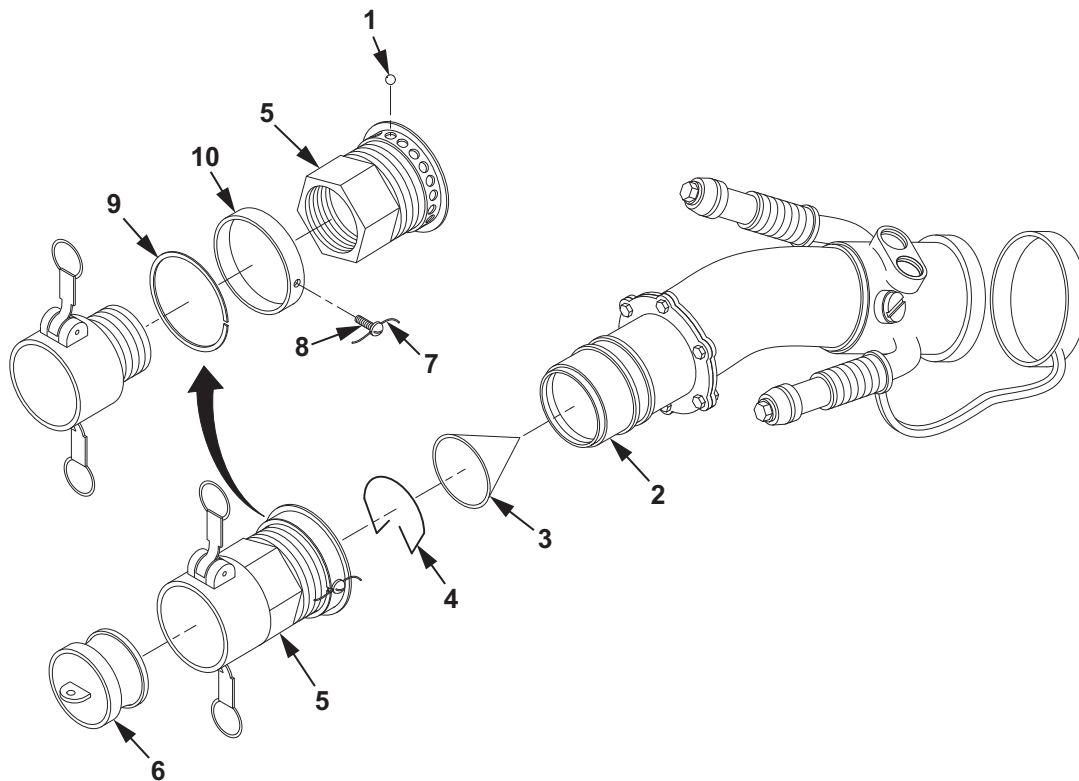

Figure 1. D1 Nozzle Strainer Maintenance.
1. Install strainer (Figure 1, Item 3) in male adapter (Figure 1, Item 2).
2. Install snap ring (Figure 1, Item 4) in male adapter (Figure 1, Item 2).
Ensure all 16 ball bearings (Figure 1, Item 1) are accounted for during assembly.
3. Install quick disconnect coupling (Figure 1, Item 5) on male adapter (Figure 1, Item 2) by performing the following steps:
- a. Using snap-ring pliers, move retaining ring (Figure 1, Item 10) up far enough to secure quick disconnect coupling (Figure 1, Item 5) on male adapter (Figure 1, Item 2).
- b. Move lock ring (Figure 1, Item 9) up to highest notch.
- c. Tighten screws (Figure 1, Item 8) on retaining ring (Figure 1, Item 10).
- d. Install lock wire (Figure 1, Item 7) on screws (Figure 1, Item 8).
4. Install dust plug (Figure 1, Item 6) on quick disconnect coupling (Figure 1, Item 5).